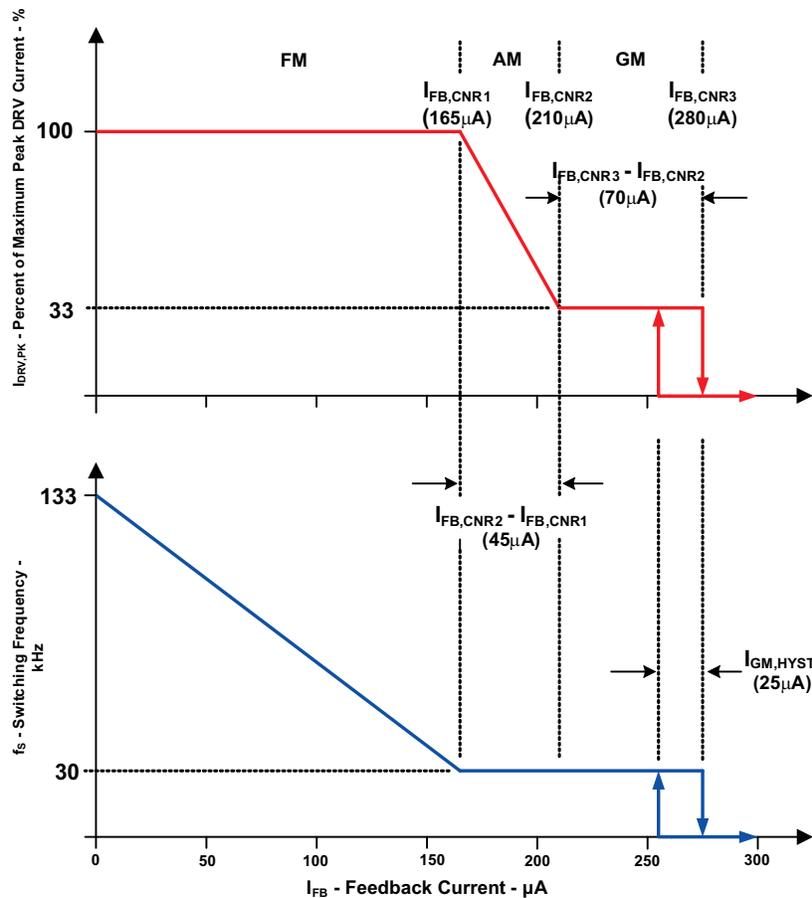

Figure 1. FB Electrical Condition Detail
(2) Refer to Figure 1.
(3) A latch-off or a shutdown and retry fault response to a sustained overload is selected by the range of R_{MOT}. To select the latch-off mode, R_{MOT} should be greater than 150 kΩ and t_{MOT} is given by R_{MOT} × (1.0 × 10⁻¹¹). To select the shutdown-retry mode, R_{MOT} should be less than 100 kΩ and t_{MOT} is given by R_{MOT} × (5.0 × 10⁻¹¹).